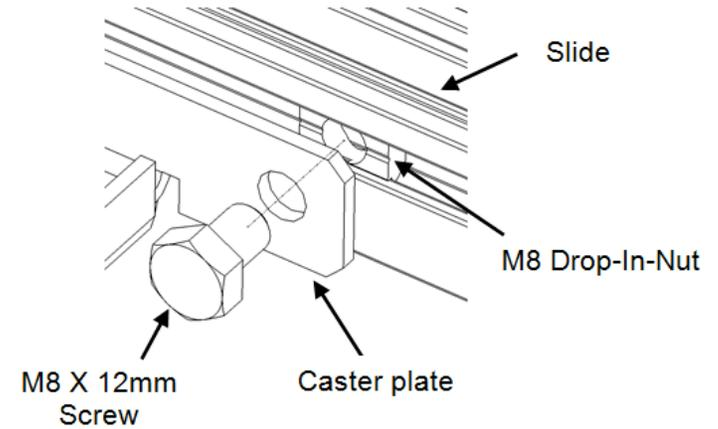

Fig. 4
6. Fasten caster plate to the side of the inner and outer bottom slides using M8X12mm screws with M8 Drop-In-Nuts (200 in-lb [22.6 Nm]) (Fig. 4).